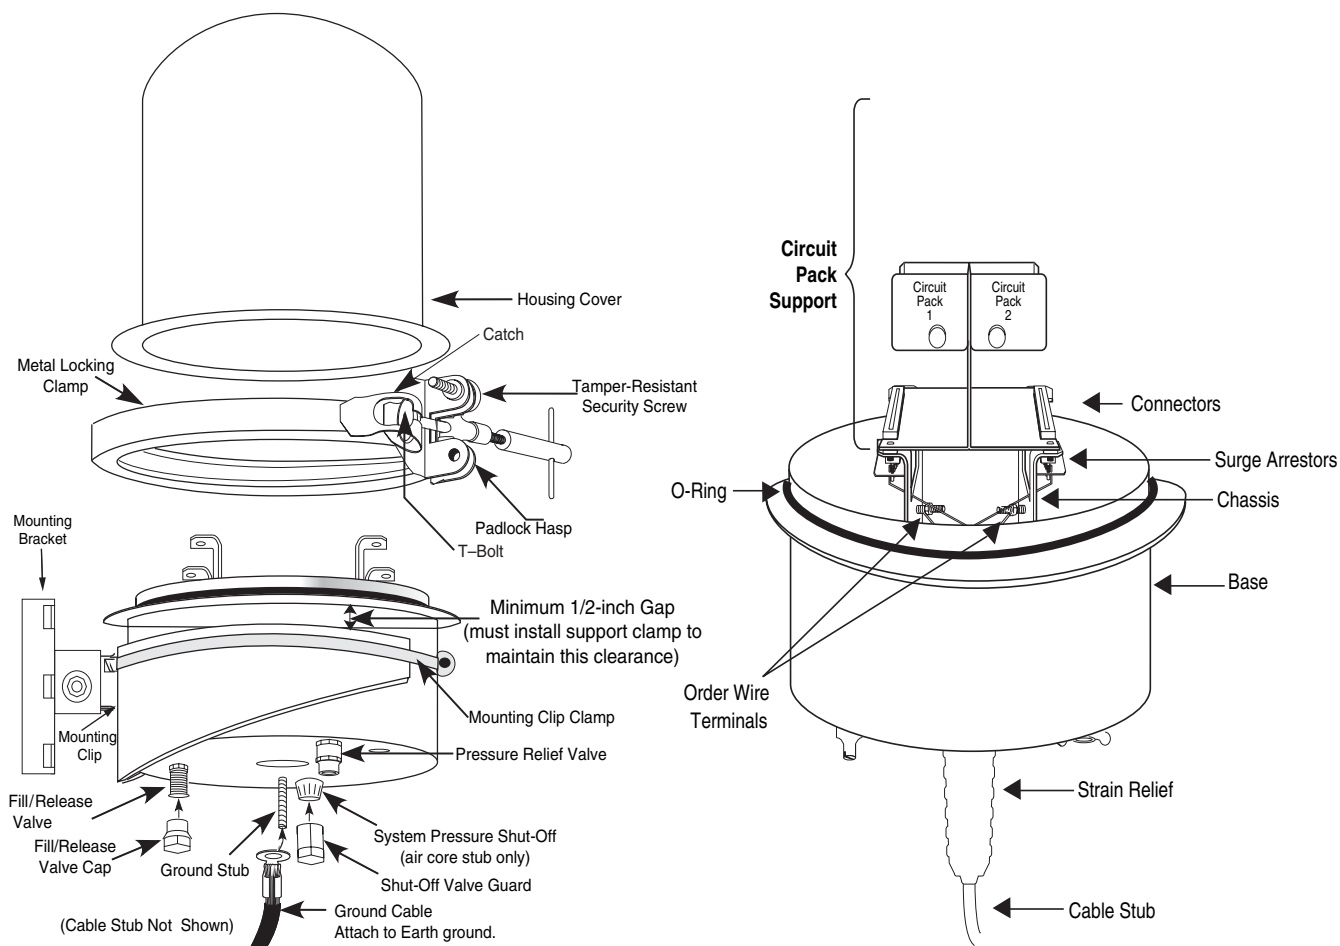

Figure 3. Repeater Housing Assembly
A stainless steel locking clamp secures the bottom of the cover to the base of the Repeater Housing using an O-ring to form an air-tight seal. A tamper-resistant screw with captured cup washer is provided to attach to the clamp for additional security. Figure 3 shows the parts of the Repeater Housing.
3. Before attaching the Repeater Housing to the mounting bracket, be sure the mounting clip is secured around the housing base. A minimum 1/2-inch gap is required between the mounting clip and the base flange. See Figure 3 on page 4.